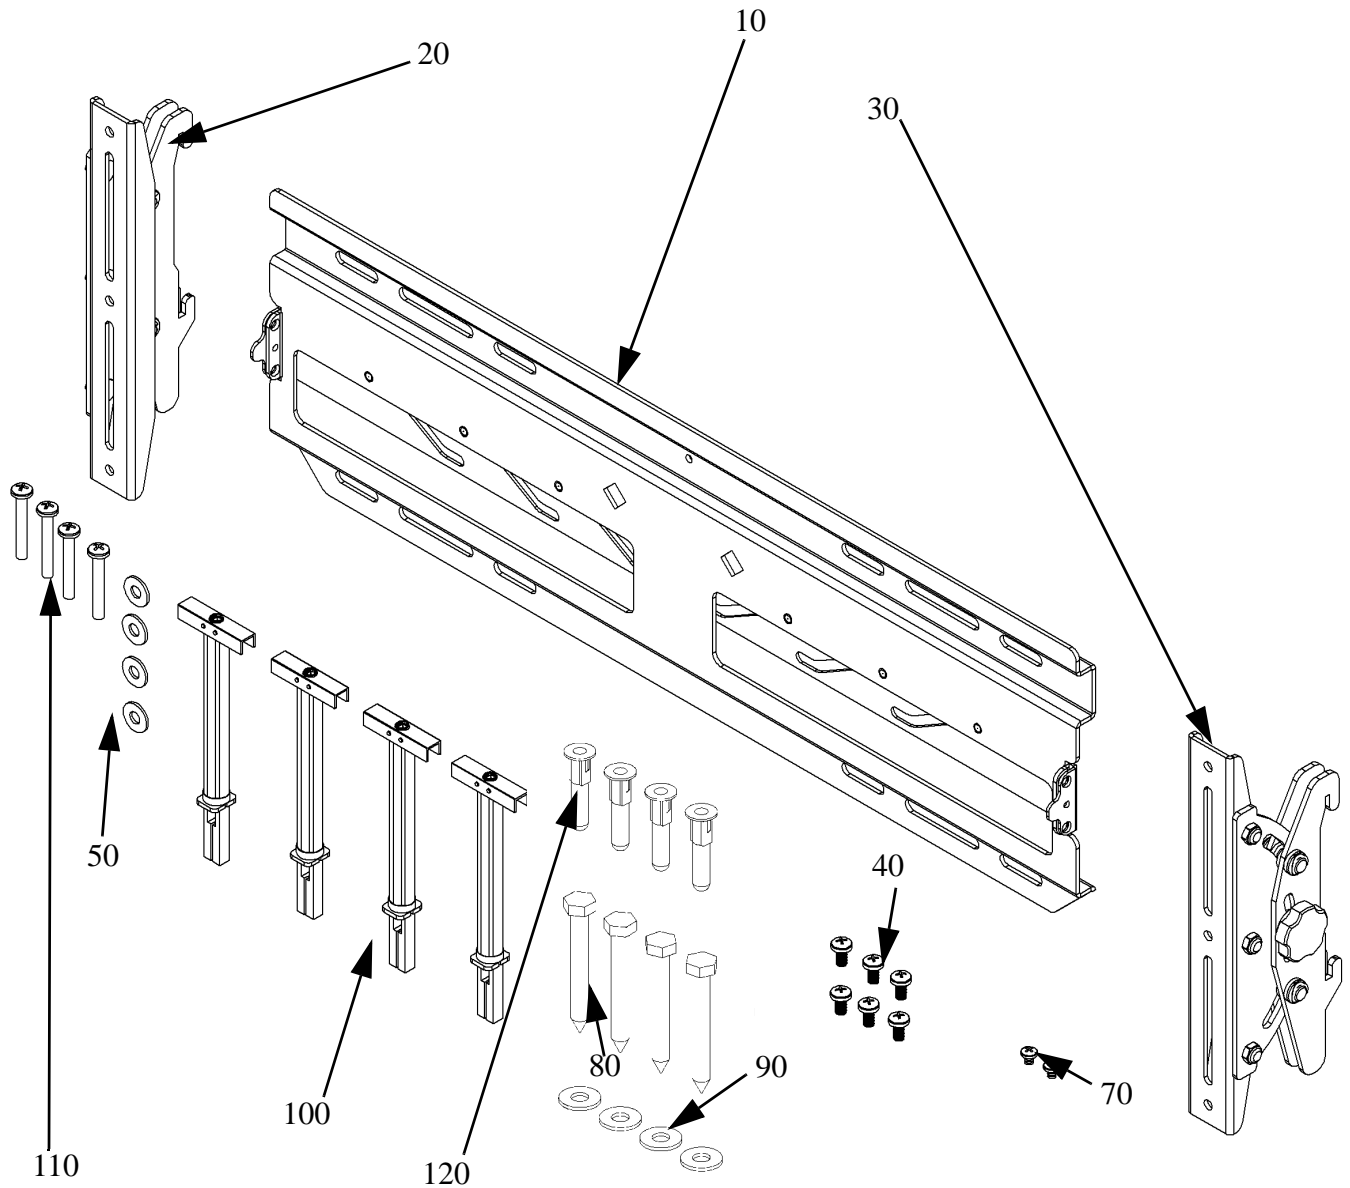

Figure 1. Tilt Display Mount Parts
1. Carefully inspect the mount for shipping damage (see Figure 1). If any damage is apparent, call your carrier claims agent and do not continue with the installation until the carrier has reviewed the damage.